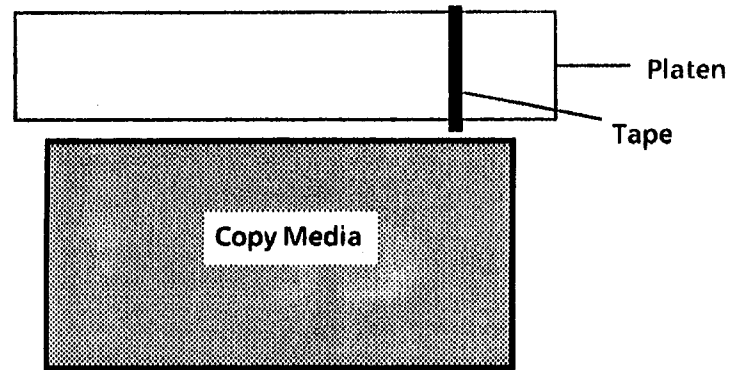

Figure 1. Installing the Tape
1. Figure 1: Place a piece of tape across the width of the platen. Place the tape so that when a copy is made the image of the tape will be a few inches in from the edge of the copy media.